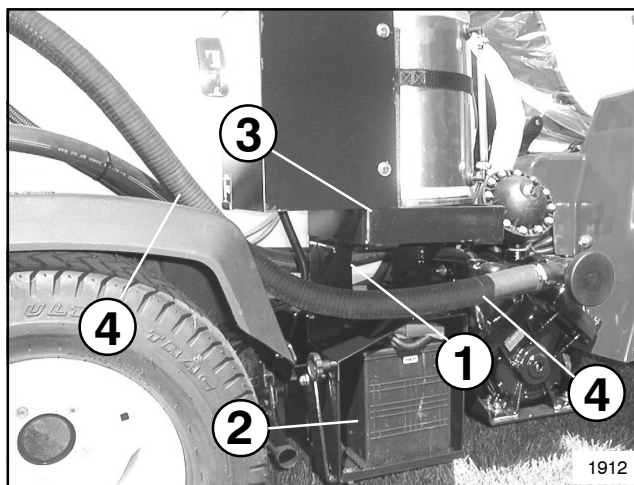

Fig. 11
1. Remove four (4) 1/4" x 1" cap screws and flatwashers holding Cover to the Tank/Compressor Assembly. Remove Cover. Set Cover and fasteners aside for future reinstallation.
2. Mount Bracket to right side of Vehicle above Battery, (see Fig. 11) using (4) 3/8" x 1" hex hd. cap screws and flange lock nuts. Attach Tank/Compressor Assembly to Bracket using (2) 3/8" x 1" hex hd. cap screws and flatwashers.
3. Route Suction Hose as shown in Fig. 11.